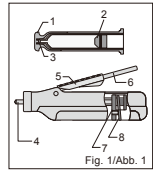

Fig. 1/Abb. 1
- Piston 5. Adjusting guide 6. Lever 7. Sliding block 8. Piston release (Fig. 1)